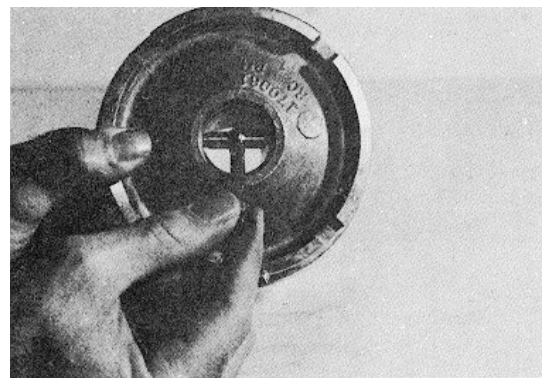

Fig. 10-16, T-365. Checking sealing ring bore in bearing housing
2. Using gauges, take reading of sealing ring bores, Fig. 10-16, and floating bearing bores. Discard housing if worn beyond replacement limit given in Specifications.